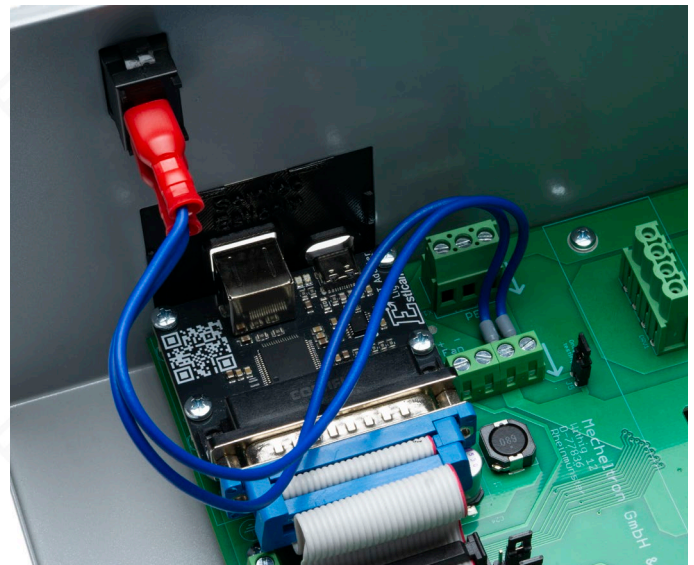

Fig. 13: Connection of the Main Switch
- Connect the main switch to the terminals labeled „Power Switch“. See Fig. 13.